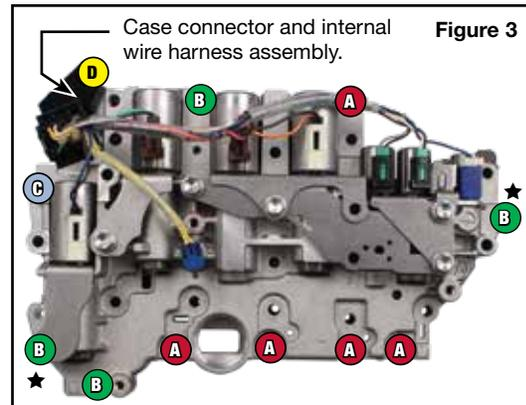

Figure 3
- Install valve body into case using 11 bolts and hand tighten as shown (**Figure 3**).